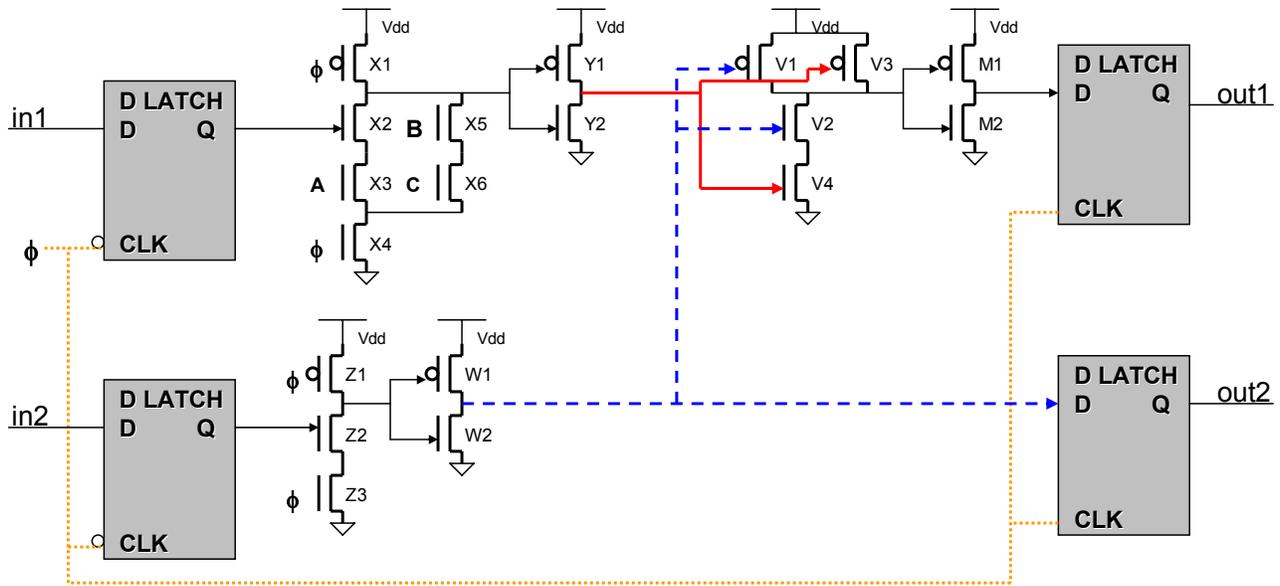

Figure 2.1 Sequential System
2. **Combinational Logic in Sequential Systems:** Consider the circuit in Figure 2.1. The design requirement for this sequential system is a 2 GHz clock frequency. The D Latches used in the sequential circuit have the following performance characteristics: $t_{CLK-Q} = 45\text{ps}$, $t_{D-Q} = 35\text{ps}$, $t_{setup} = 25\text{ps}$, $t_{hold} = 85\text{ps}$. Use the sizes given in the chart below for this problem. Consider the input capacitance of each D-Latch as 8 fF and the output risetime/falltime of each D Latch is 60ps. The clock rise/fall time is 90ps. Consider the input slope dependence on *delay* using our linear model with $K=0.15$ (for the latest arriving signal at each gate). Consider both out1 and out2 for all delay and timing calculations in this problem. For worst-case calculations, all inputs not explicitly connected to a latch may be assumed to be connected to the output of a latch where the data is available at the latest time (that ensures proper functionality) before the edge of the clock that will close the latch (make it non-transparent). Use the 0.6 fF/ μm approximation for junction capacitances and calculate C_{gc} only for gate capacitances in this problem, also add 4 fF of wiring capacitance at each gate output node (6 gates total in this problem).